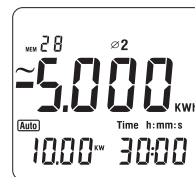

Figure 29
4. Press **SELECT** to choose one of the three phases ( $\varnothing 1$ ,  $\varnothing 2$ ,  $\varnothing 3$ ), see figure 29.